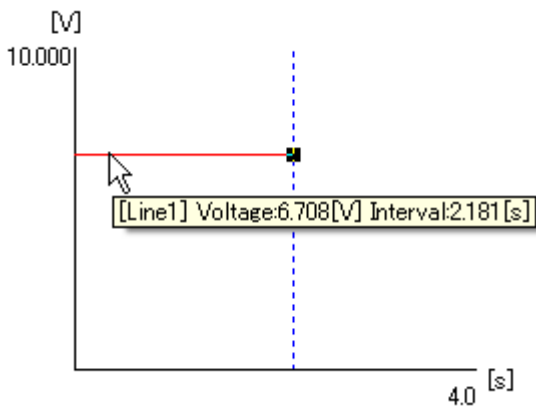
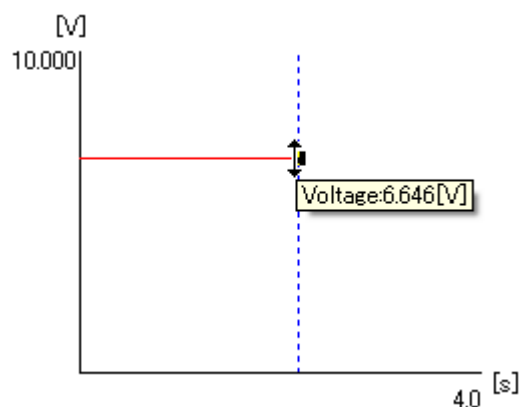
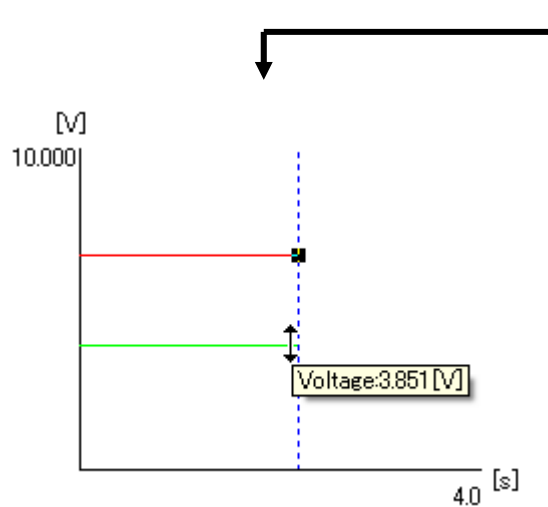

Fig. 7-6 Selecting the Line to be Changed
Fig. 7-7 Start Changing the Data
Fig. 7-8 Moving to the Desired Position
- (4) To edit data from a graph, double click on the line to be modified. This will cause the end point of the line to change to a black point (Fig 7-6). Move the mouse pointer over the black point, and, when the pointer changes to an arrow (Fig. 7-7), hold down the left mouse button to select that point and drag the mouse up or down (Fig. 7-8). Release the left button at any location to establish that data point.